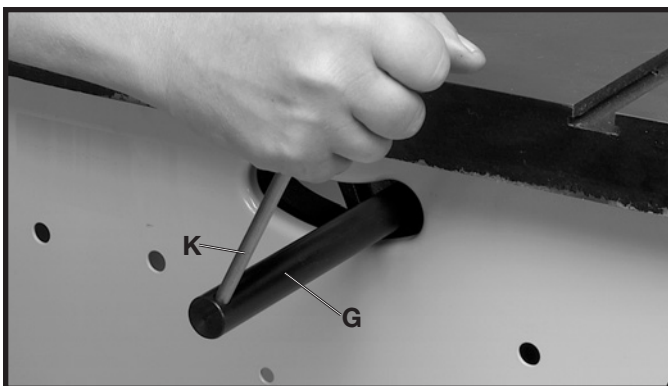

Fig. 20
6. Using a wrench to hold the 5/8-18 hex jam nut (J) Fig. 19, tighten rod (G) Fig. 20, with a small screwdriver (K) or similar device through the hole in the end of the rod as shown in Figure 20.